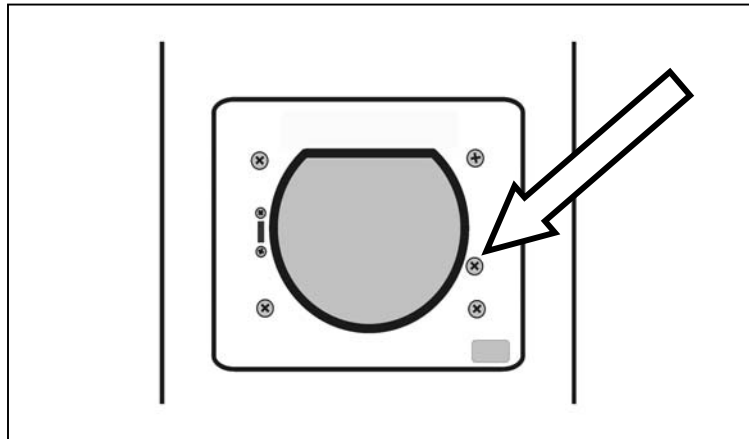

Figure 5-3: Securing screw for Power Electronic on the T1515, T1520, T1526, T1565C and T1570C model Dryers.
1. Open the front Door and remove the screw near the 4 o'clock position (Figure 5-3).